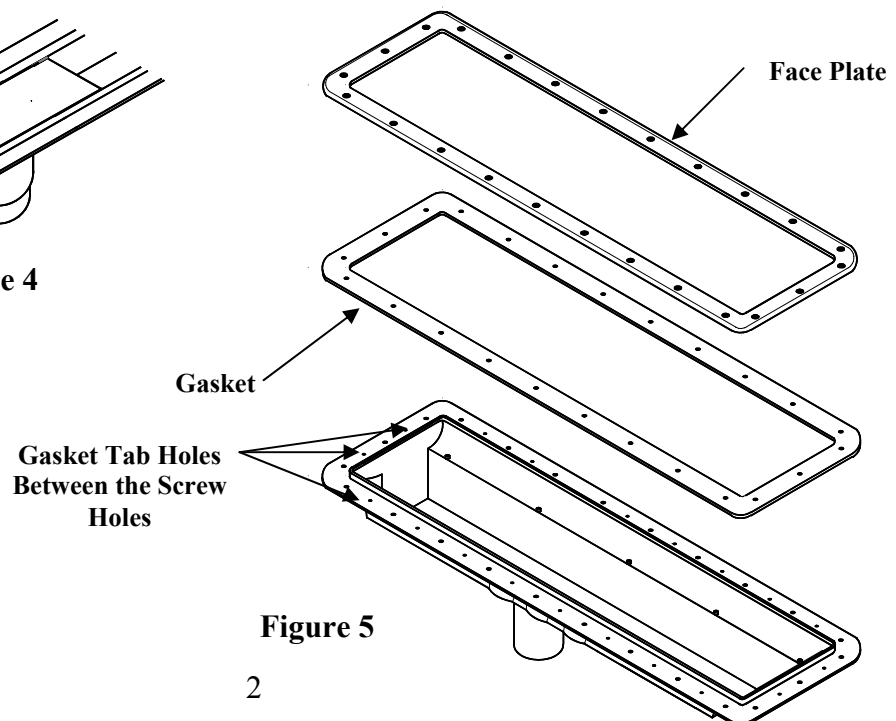

Figure 5
5. Install the supplied gasket, this can be spot glued as required. Note that the gasket has tabs that can be popped into the appropriate holes in the plate tray of the Channel Drain (see Figure 5).